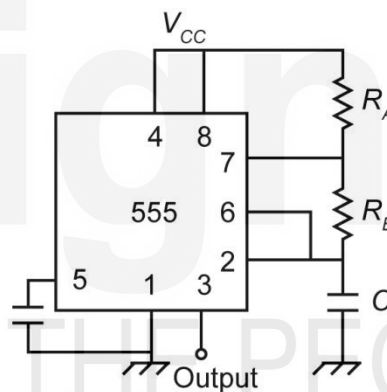

Fig. 16.6: Astable multivibrator.
The circuit diagram of an astable multivibrator using IC555 is shown in Fig. 16.6.
3. Since duty cycle is 60%, we use the circuit shown in Fig. 16.6.